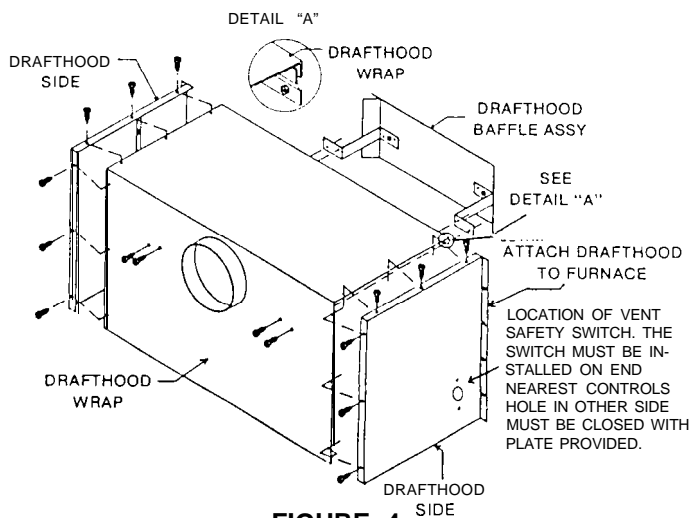

FIGURE 4
1. Assemble drafthood sides over the drafthood wrap and attach with screws provided. See Figure 4.